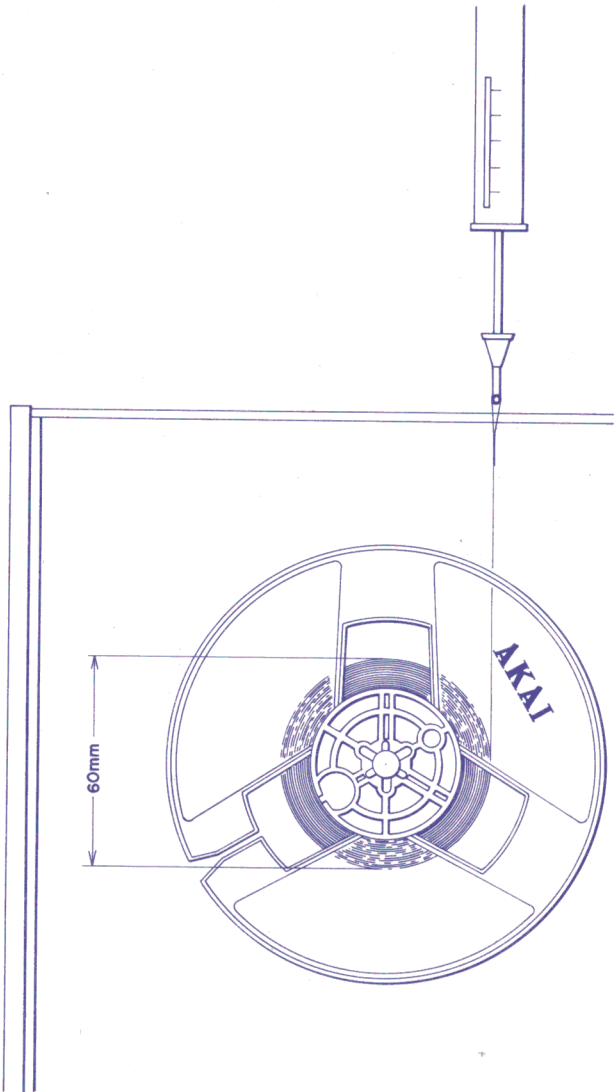

Fig. 14
- 1) As shown in Fig. 14, use a 60 mm diameter tape wound on a 5" reel and measure the brake tension with a tension gauge. Ideal brake tension is from 300 to 370 grams.